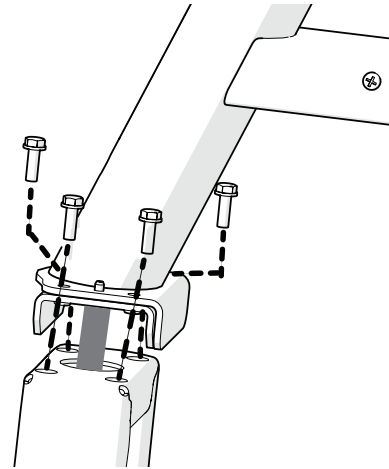

Figure 1
3. Position the display mount on top of the base frame (Figure 1) and attach it using four bolts ❶. Tighten all bolts to 180 in-lb (20 N-m) of torque.